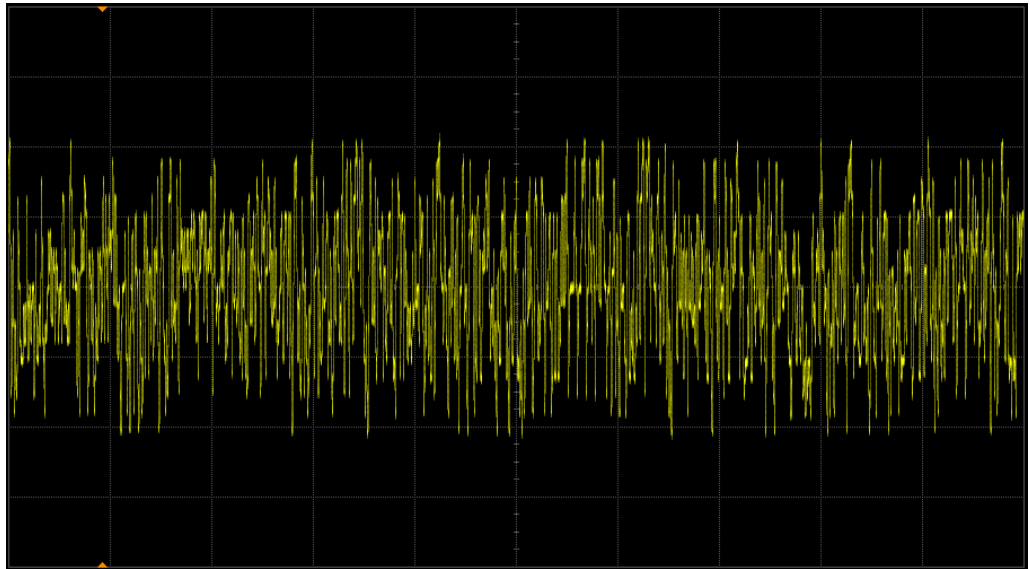

Figure 14 Example of Transmitter Test Mode 4 Waveform (1 Cycle)
- 1 Configure the DUT to output the Test Mode 4 signal. An example of this waveform is shown in Figure 14.